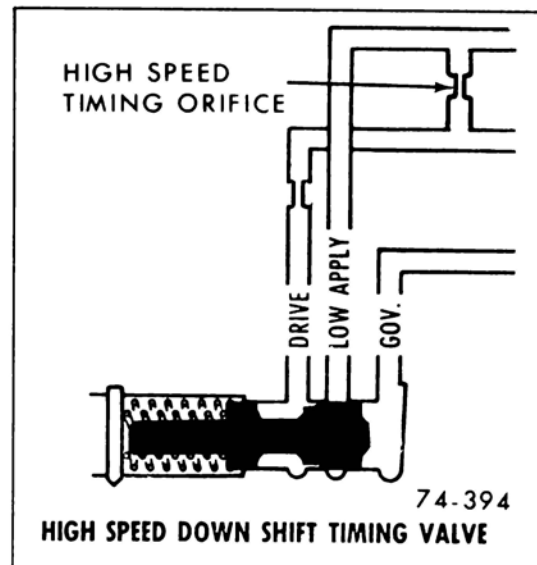

Figure 74-22—High Speed Downshift Timing Valve - Third Stage Regulation
At higher car speeds governor pressure on the end of the valve increases to overcome force of two (2) springs. The valve will then move over to the retaining pin. See Figure 74-22. This prohibits oil from passing through the valve and allows it to pass through the high speed timing orifice only before flowing through